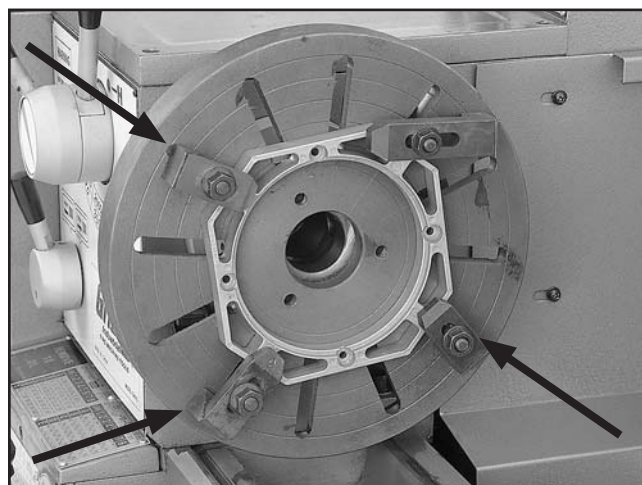

Figure 36. Example of the faceplate with properly mounted workpiece clamped in four locations.
3. With assistance, place the workpiece onto the faceplate and clamp it tightly in place with a minimum of three independent clamping devices (see **Figure 36** for an example).